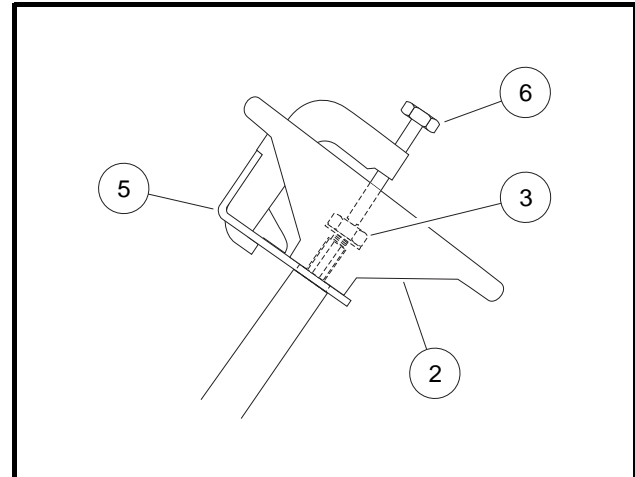

Figure 7-2 Steering Wheel Puller
- 6.3. Rotate the anvil screw (6) clockwise until the base plate contacts the bottom of the steering wheel where it attaches to the steering column (**Figure 7-2, Page 7-2**).